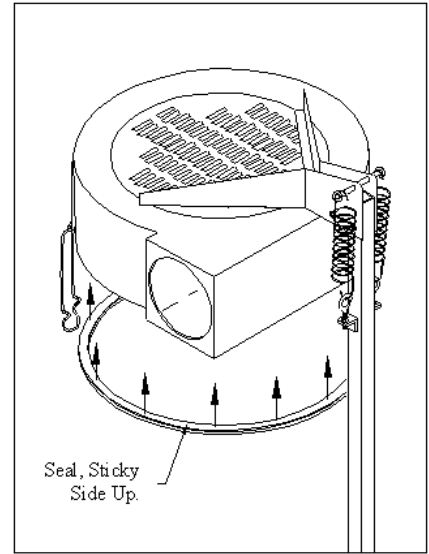

Fig. 11
11. Peel paper backing away from seal (13). Apply adhesive surface to lip on bottom of molded top as shown. **Fig. 11**